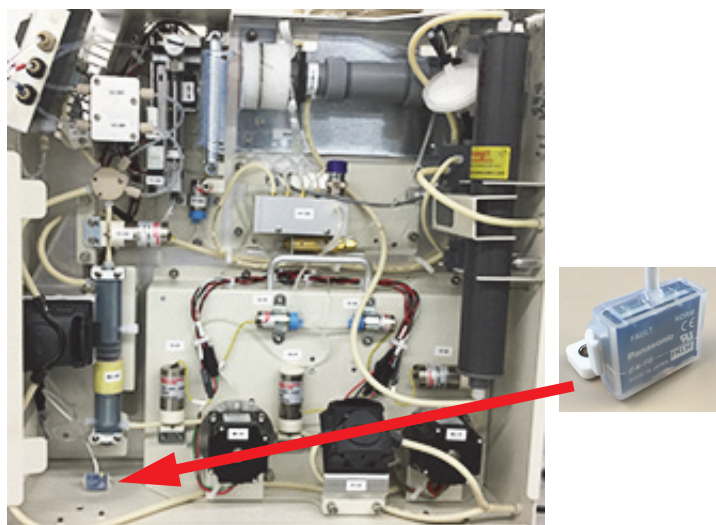

Figure 42: Liquid Sensor Location — Analyzer Enclosure
1. Verify that the Analyzer has a liquid sensor installed on the inside floor of the Analyzer (Figure 42). (If you are unsure of the presence of a liquid sensor, do NOT enable this feature.)